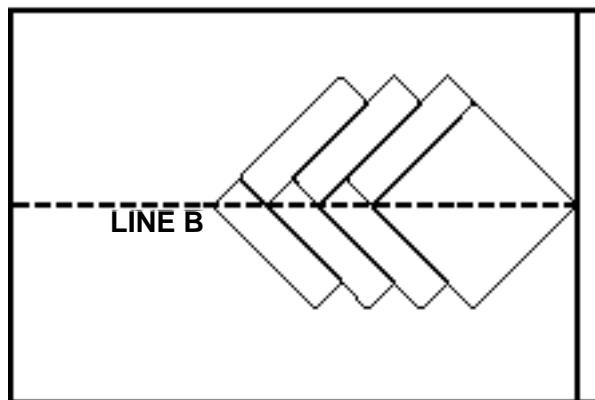

figure 1-5
*Herringbone installation: To begin installation on line B (see figure 1-5), cut a square piece of plywood the size of the herringbone pattern you are installing. For example, if the herringbone is 3 inches by 12 inches, cut a 12-by-12 inch piece of plywood. Nail this piece of plywood at your starting point on line B, with one corner of the square pointing in the direction of your layout.*